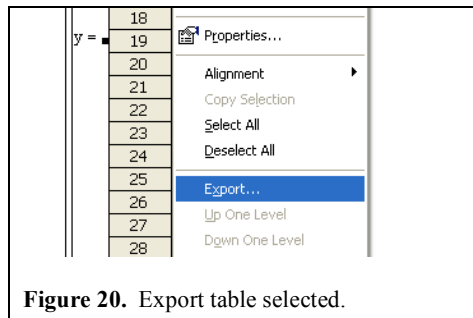

Figure 20. Export table selected.
2. Right click on the output table and select Export from the menu. The correct menu item is highlighted in blue in Figure 20.